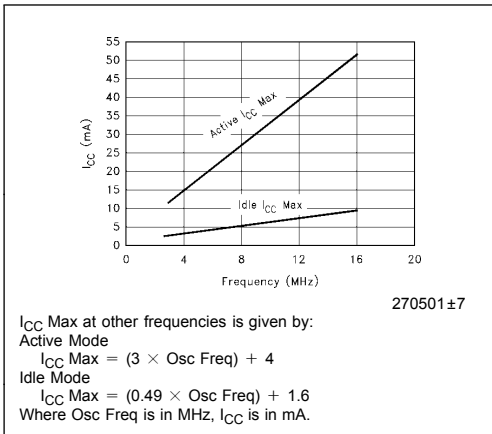

Figure 6. I_{CC} vs Frequency
- See Figures 6±9 for test conditions. Minimum V_{CC} for Power Down is 2.0V.